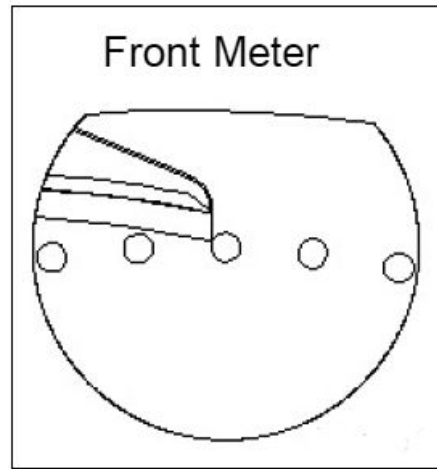

Figure 2
d. Turn the shaft until the tip of the seed scraper is flush with the back of the cell in the seed plate. See Figure 2.